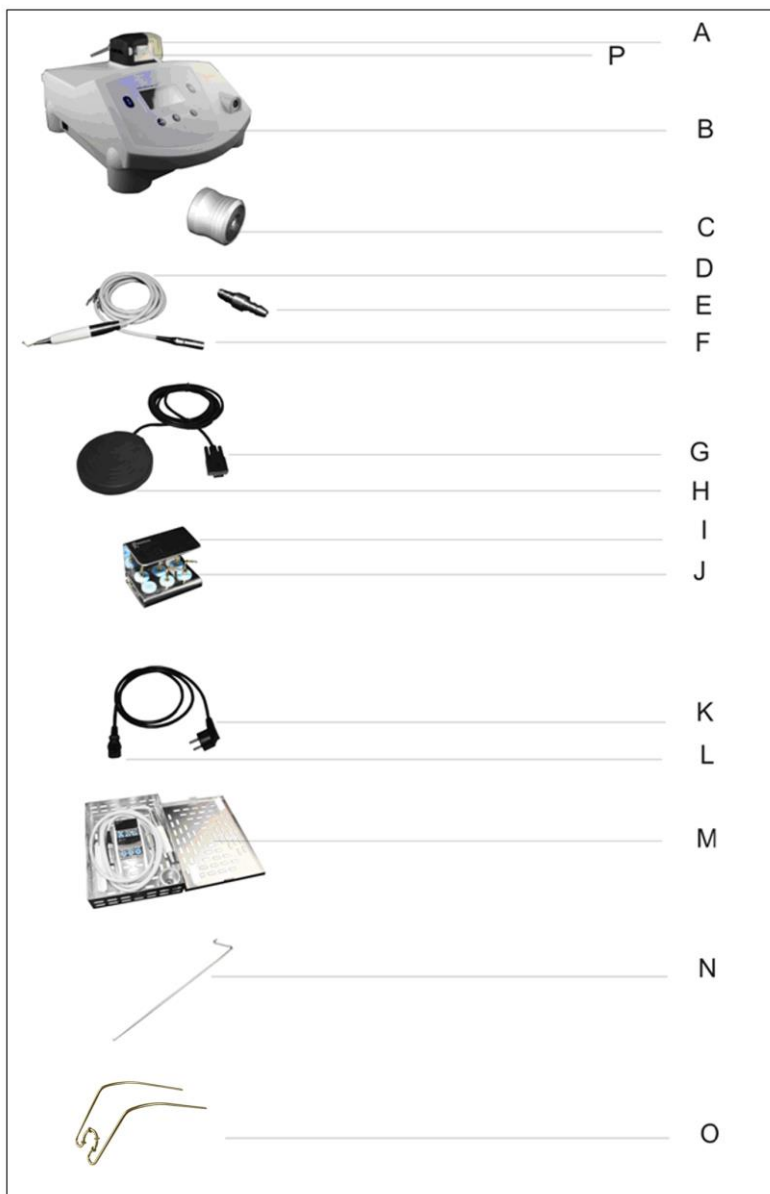

Fig. 3
- 6 Insert the handpiece tube in the pump connector (Fig. 3 - Ref. P);
- 7 Put the handpiece on the support (Fig. 3 - Ref. O);